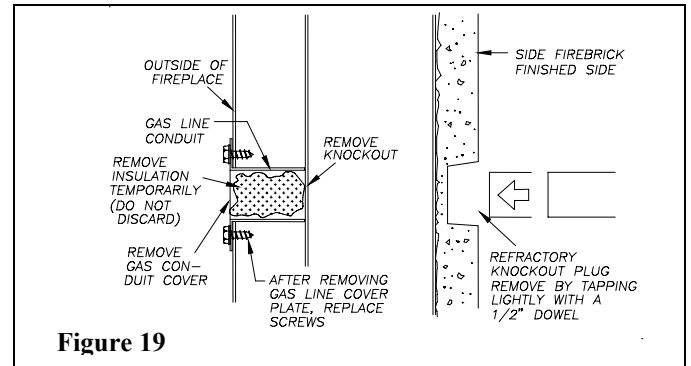

Figure 19
STEP 1: To install, remove the knockout indentation on the refractory, (or firebrick), wall located approximately 2 inches above the refractory hearth floor. The knockout indentation must be firmly tapped with any solid object until it is released. Remove fragmented portions of refractory (see figure 19).